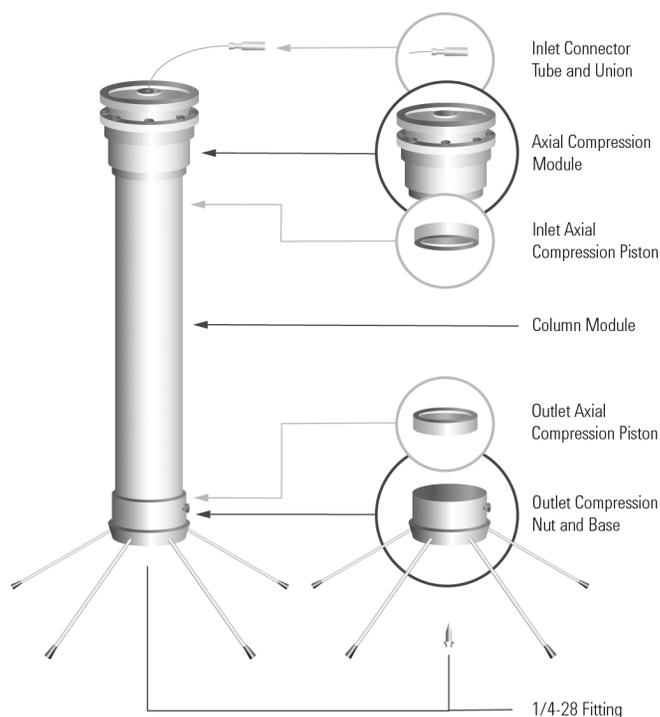

Figure 2. Components of Dynamax 41.4 mm End-Fittings Kit No. 1. (Column module not included in Kit.)
Each kit also contains connections required to attach the Column Module to your HPLC system. These connections consist of Female-Female Union for 1/16" od tubing and a plastic reusable connector for SSI-type fittings. A 20 cm-length x 1/16" od x 0.030" id stainless steel tube is provided with ¼-28 male nuts and ferrules swaged onto either end. One end of the tubing is inserted into the Union; the remaining end is for connection to the column inlet. The plastic reusable fitting connects the Column Module to your HPLC system via the Union. (See Figure 2.) You should also have two extra ¼-28 male nuts and two ferrules.
- 3.2. Before assembling the Column Module please refer to Figure 2.